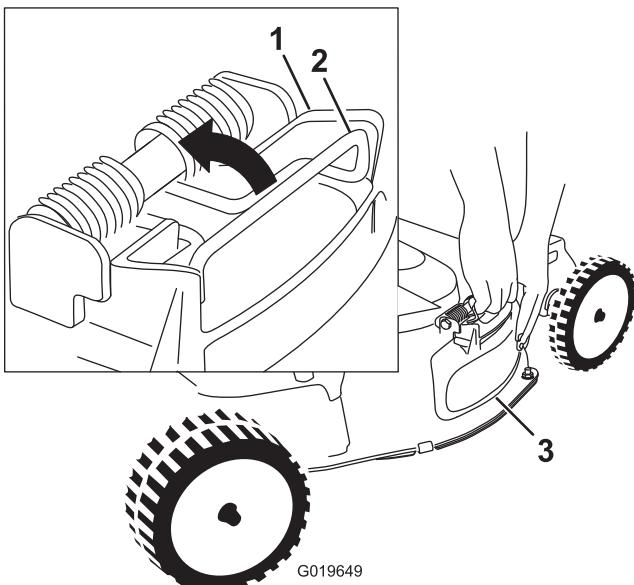

Figure 24
4. Remove the side-discharge deflector by pulling up on the spring that holds the deflector in place and removing the deflector (Figure 24).